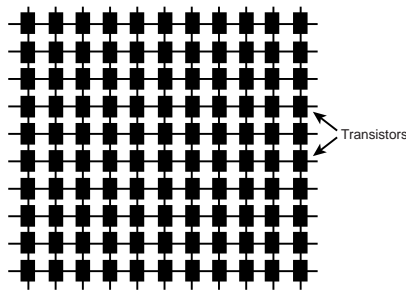

FIG. 20.3 Active matrix LCD displays contain a transistor for each pixel on the screen. The pixels generate their own light for a brighter display.
**Active Matrix Displays.** An active matrix display, also known as a *TFT (thin film transistor)* display, differs from a dual scan in that it contains a transistor for every pixel on the screen, rather than just at the edges. The transistors are arranged on a grid of conductive material, with each connected to a horizontal and a vertical member (see Figure 20.3). Selected voltages are applied by electrodes at the perimeter of the grid in order to address each pixel individually.